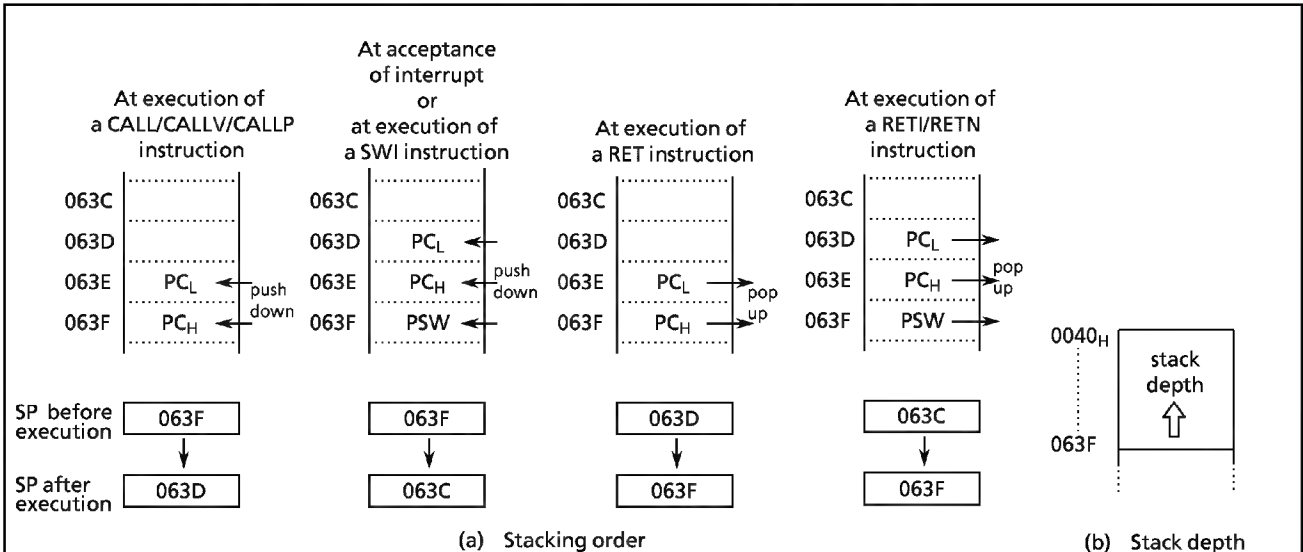

Figure 1-8. Stack
1.7.2 Stack Pointer (SP)
The stack pointer (SP) is a 16-bit register containing the address of the next free locations on the stack. The SP is postdecremented when a subroutine call or a push instruction is executed, or when an interrupt is accepted; and the SP is preincremented when a return or a pop instruction is executed. Figure 1-8 shows the stacking order.